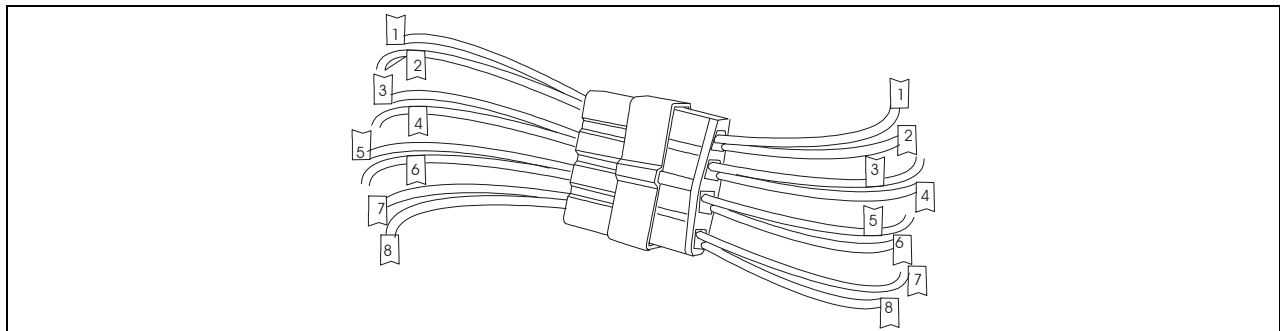

FIGURE 4: IDENTIFY EACH CORRESPONDING WIRES BEFORE EXTRACTING THE TERMINALS FROM THE CONNECTOR HOUSING
2. It is very important to identify each corresponding wires on both sides of the connectors in order to prevent wrong connections. Using masking tape, tag each corresponding wires with number 1 to 8 (figure 4).